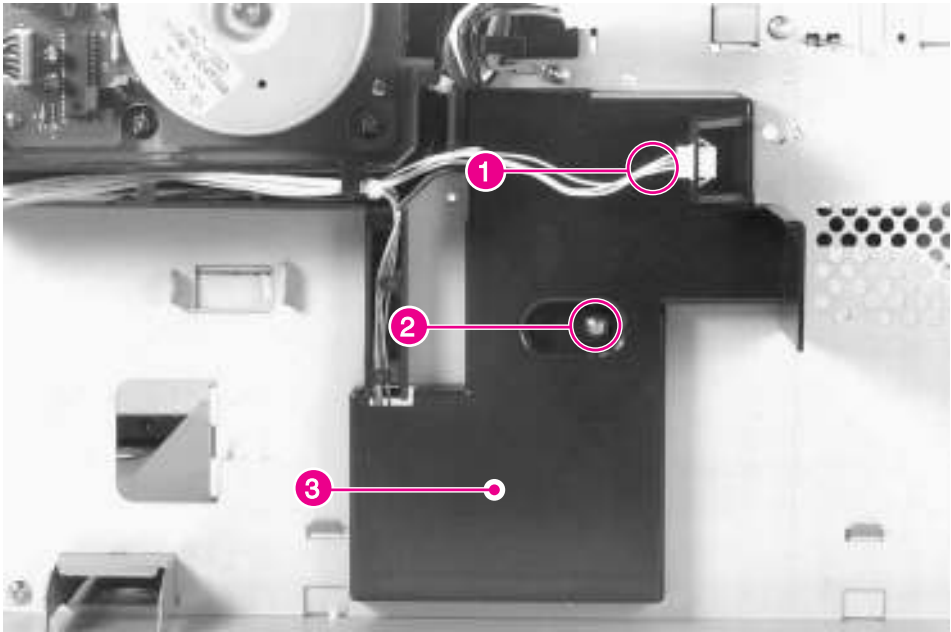

Figure 6-46 Paper Size PCA (1 of 3)
- 2 Unplug the fan cable from the left side of the connector (figure 6-46, callout 1), remove 1 screw (figure 6-46, callout 2), and remove the plastic shield (figure 6-46, callout 3).